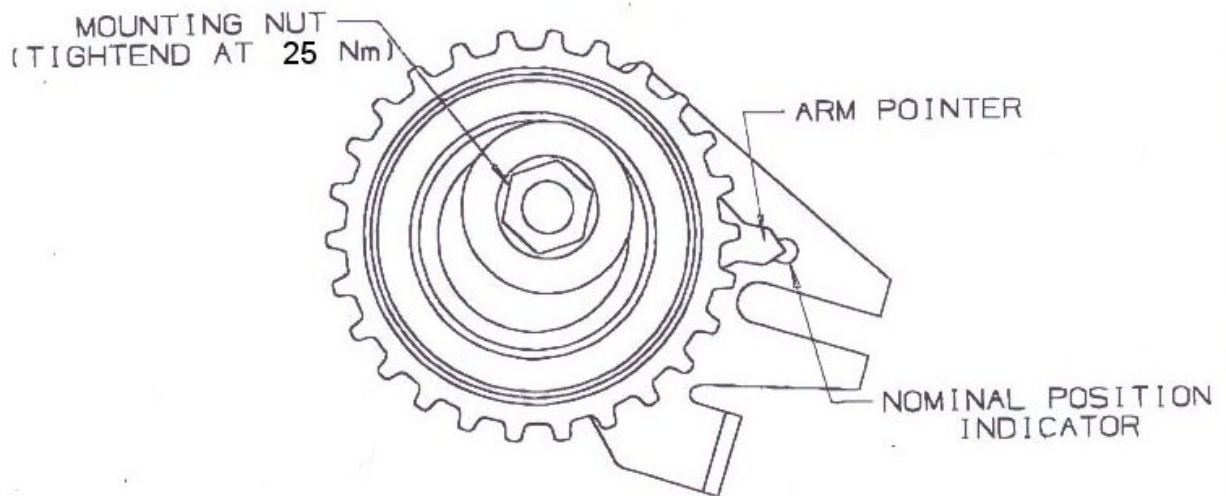

Figure 4: Tensioner installed properly at room temperature (20°C)
10. Using the installation tool to hold the tensioner position, loosen the tensioner Mounting Nut enough to allow movement. Watching the movement of the Arm Pointer, slowly retract the tensioner away from the belt until the Arm Pointer aligns with the Nominal Position Indicator on the front plate (See Figure 4).